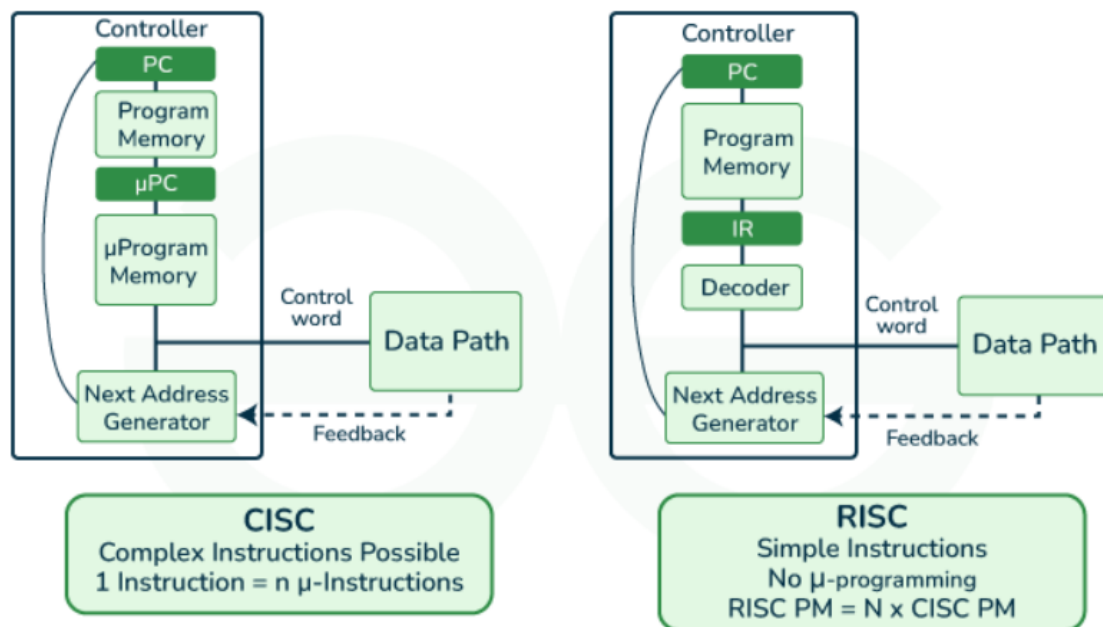

FIGURE 2.1 COMPARISON OF RISC AND CISC
The figure 2.1 illustrates a comparative structural representation of CISC (Complex Instruction Set Computing) and RISC (Reduced Instruction Set Computing) architectures. These are two fundamental approaches in processor design, each with its own advantages and trade-offs. Below is a detailed description of both architectures based on the image.
- On the left side of the figure 2.1, the CISC architecture is depicted. The Controller consists of several key components:
- On the right side of the Figure 2.1, the RISC architecture is depicted. The Controller structure differs from CISC:
- Instruction Register (IR) and Decoder: